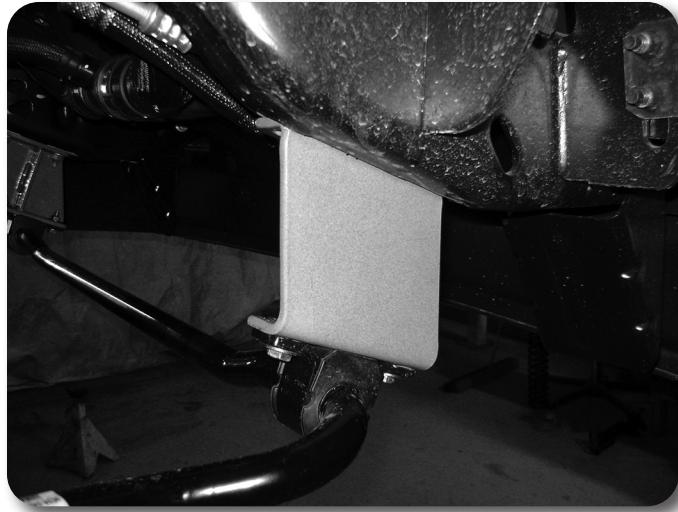

Figure 14
34. Locate the new sway bar drop brackets. Install the brackets on the frame with the original sway bar mount hardware. When installed the brackets should offset toward the front of the vehicle and the open face point to the inside. **Figure 14** Leave hardware loose.